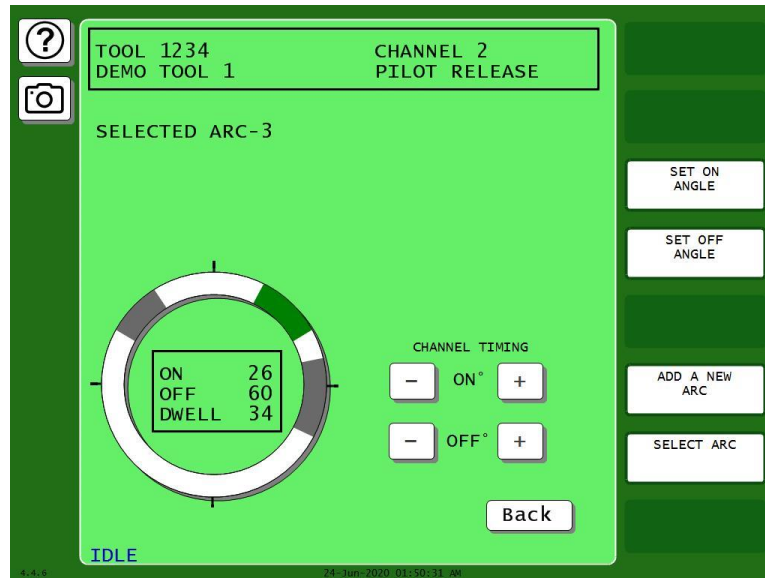

Figure 7-12. Cam Channel On/Off Program Screen: Three On/Off Arcs
- Repeat steps 2 and 3 to add additional arcs. Figure 7-12 shows the Cam Channel On/Off Program screen with a third arc programmed for an On angle of 26° and an Off angle of 60°.